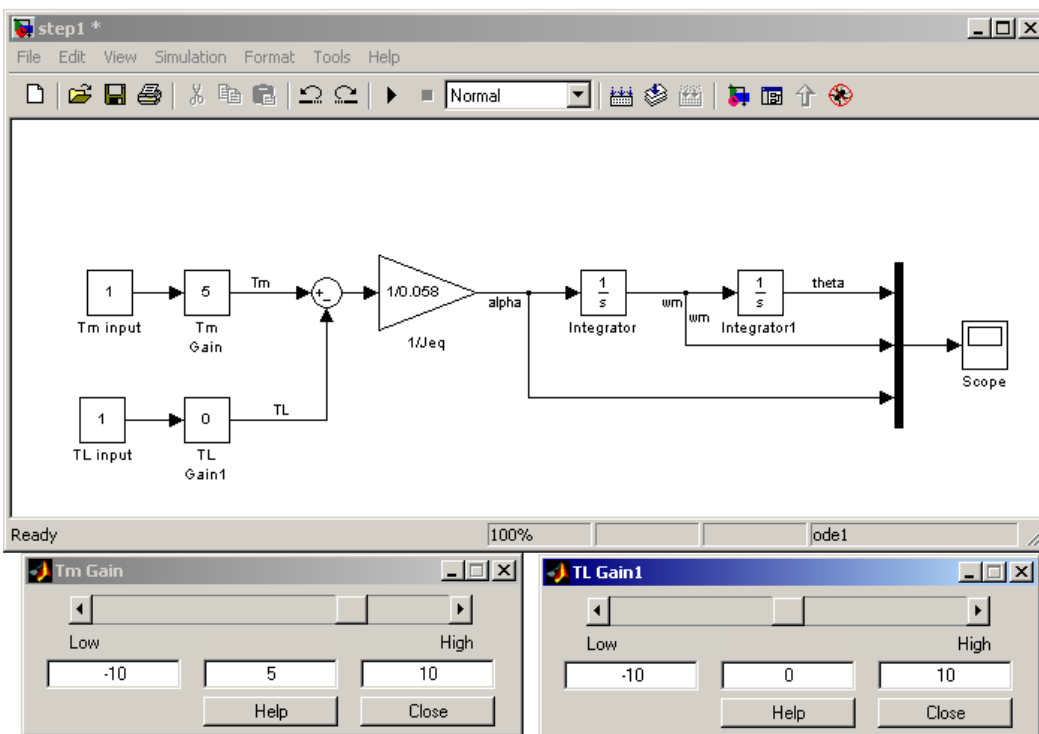

Figure 1.1: Simple Mechanical System Model
- After the connections are made the model should look like Fig. 1.1